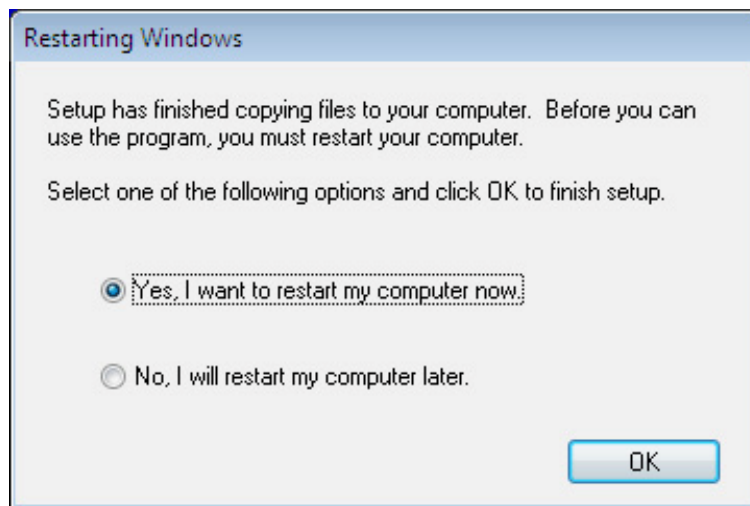

Figure 6-21: Audio Driver Installation Complete
Step 7: When the driver is installed, the driver installation finish screen in **Figure 6-21** appears. Select “**Yes, I want to restart my computer now**” and click **OK**.